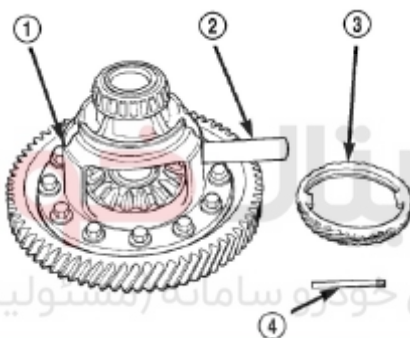
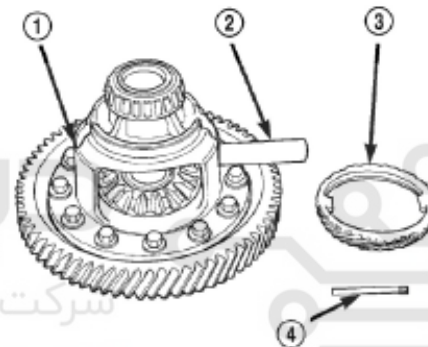
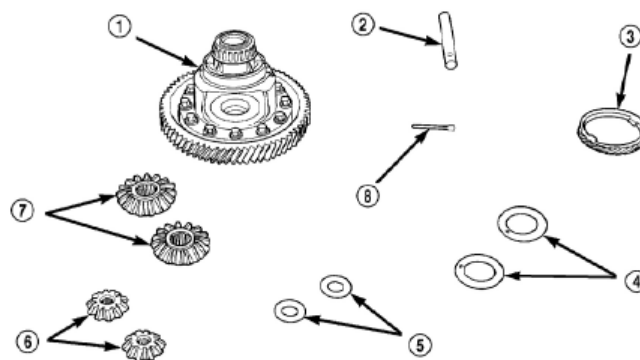

Figure 3-88 Disassembly of pinion axle
Figure 3-89 Disassembly of pinion, side gear and thrust washer
Figure 3-90 Differential parts
(5) Remove the pinion, side gear and thrust washer (Figure 3-88, Figure 3-89 and Figure 3-90).
(1) Install side gear, pinion and thrust washer in the casing through the opening and rotate them into the place (Figure 3-89 and Figure 3-90).
(2) Assemble pinion shaft (Figure 3-88).